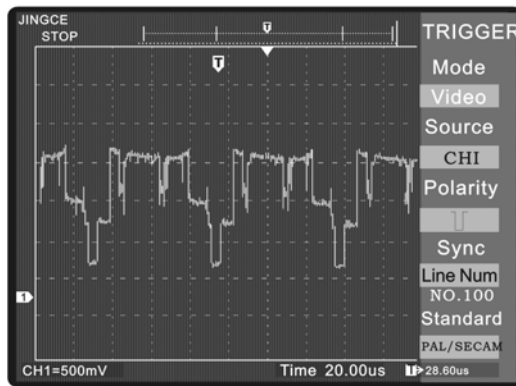

Figure 2-14 Synchronized on line 100
- Line Num: Trigger on an appointed line(Use the LEVEL knob to select the desired line number), as Fig.2-14.